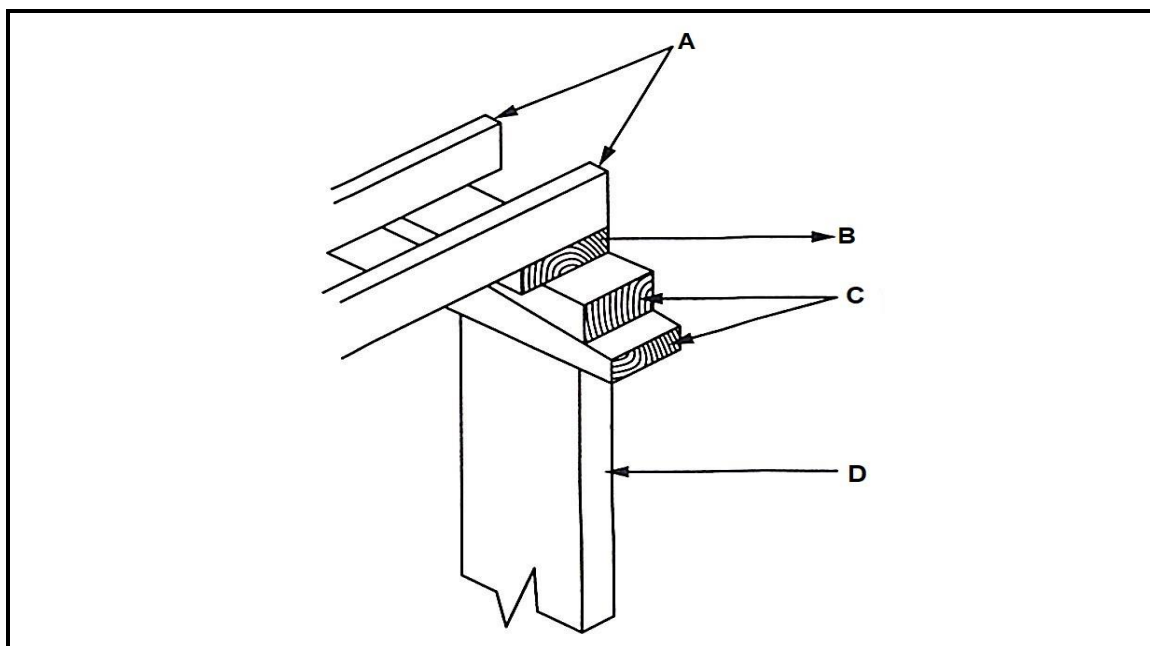

FIGURE 5.4
5.4 FIGURE 5.4 below shows a pictorial view of the construction detail underneath a centre of arch. Study the picture and answer the questions that follow.
- 5.4.2 Explain ONE use of **A** as shown in FIGURE 5.4. (1)